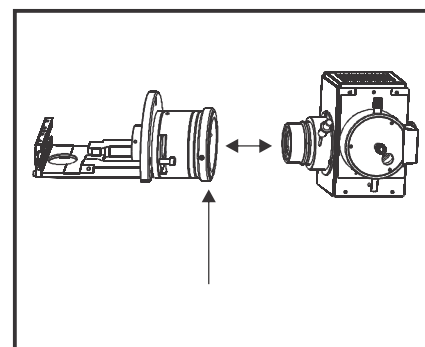

Fig. 3
2. Join the Optical assembly and illumination assembly to complete the FL attachment. Guide the illumination assembly to the optical assembly. Secure both parts by the allen screws (1) provided. Refer Fig. 3.